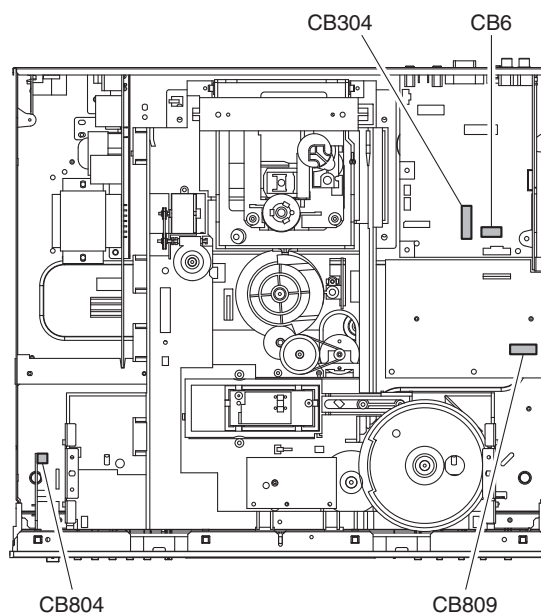

Fig. 7
- Remove CB6, CB304, CB804 and CB809. (Fig. 7)